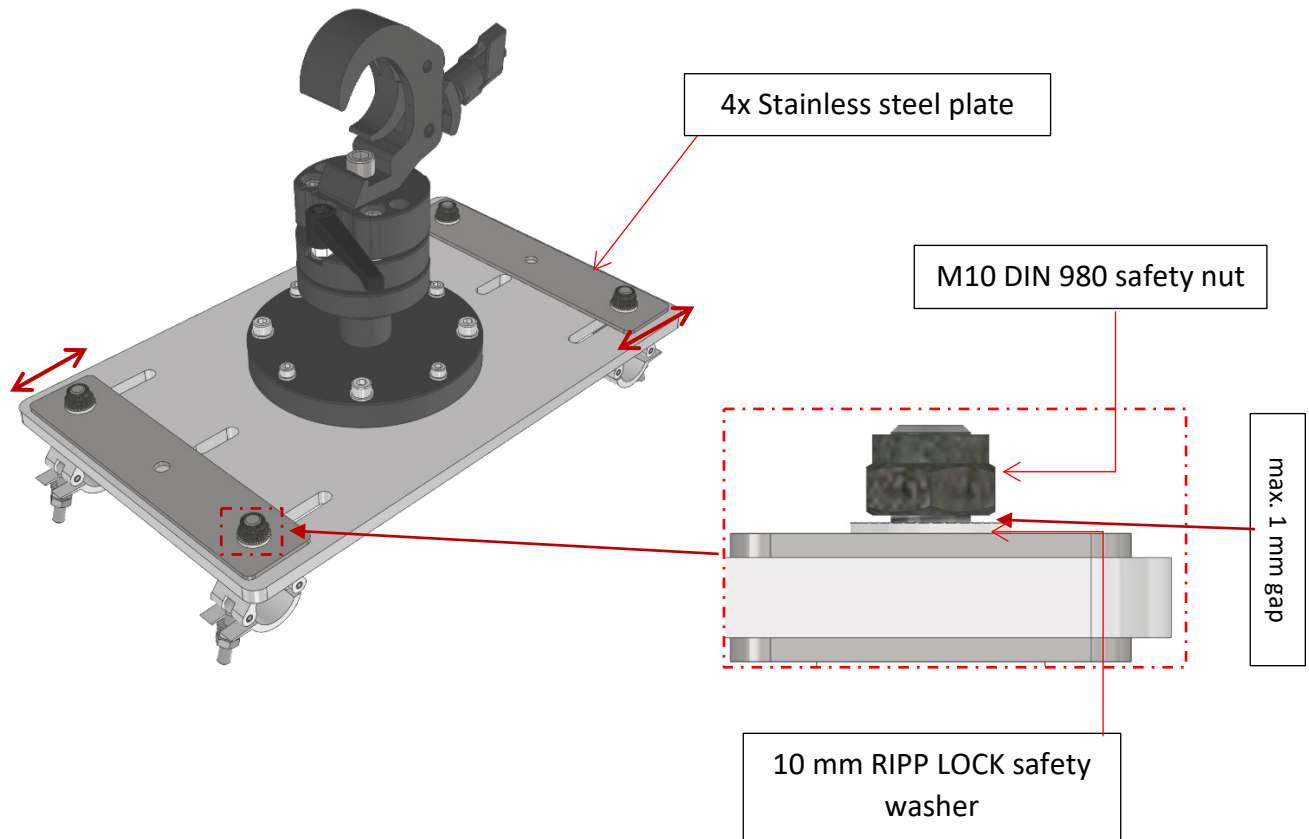

Figure 2 Adjusting clamp position
**Step 1:** Untighten the four M10 DIN 980 safety nuts until there is a gap of max.1 mm between the nut and the 10 mm RIPP LOCK safety washer as described in Figure 2 Adjusting clamp position. With this the position of the clamps can be adjusted to match the dimensions of a suitable EVO FRAME.